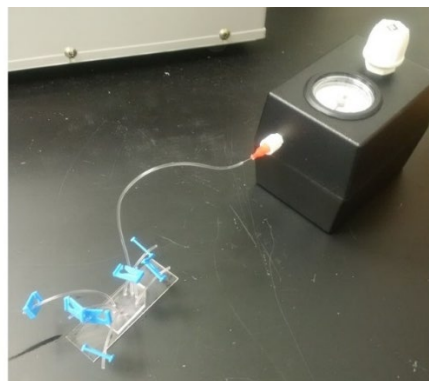

Figure 4. Schematic for connecting the microfluidics device to the Pneumatic Primer.
7. Once the connections have been made between the gas cylinder and the Pneumatic Primer box, the microfluidics device can be connected to the white inlet connector (**Figure 4**).